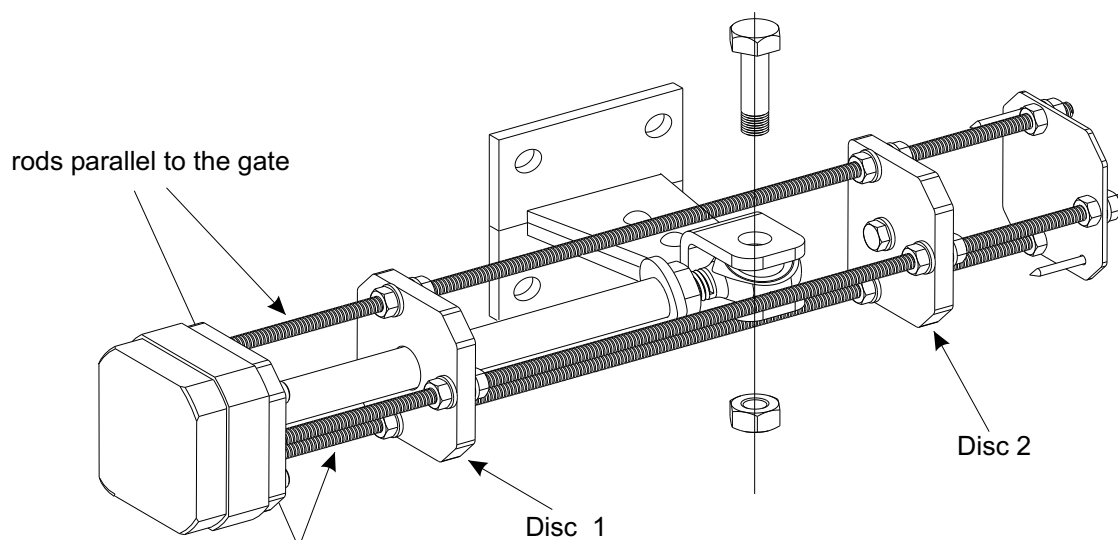

Fig. 20
- Put the positive stops into the front flange of the unit with the two tie rods (of the three present on the stops) which are parallel to the gate (Fig.20).